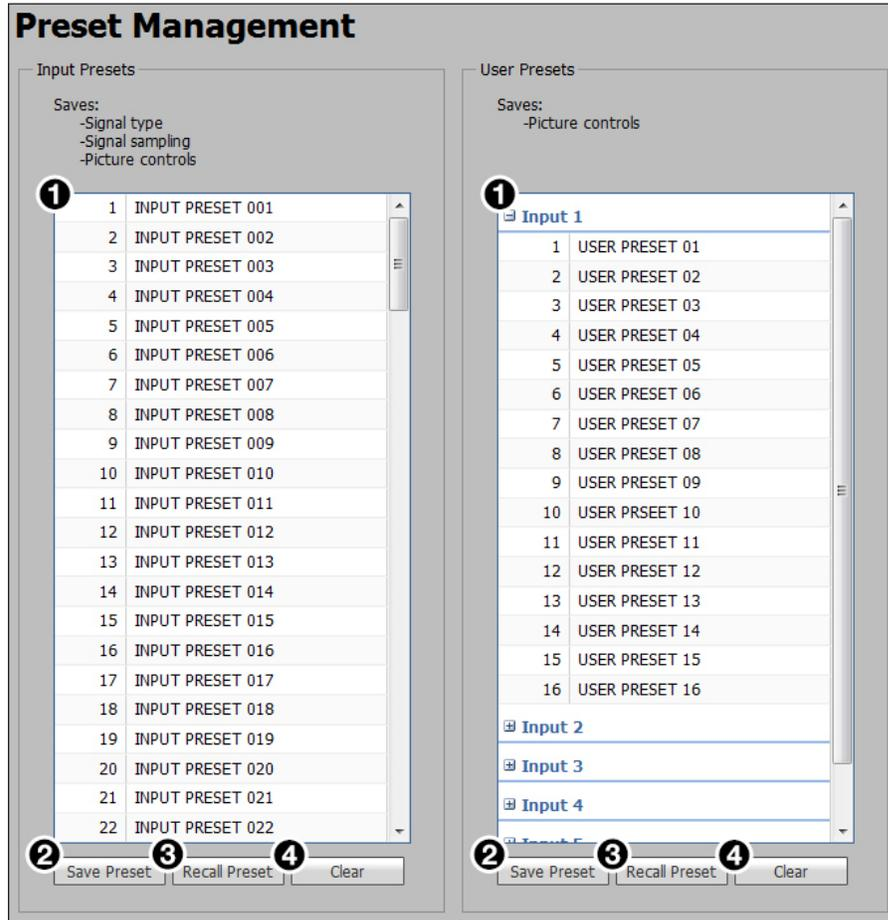

Figure 76. Preset Management Page
The **Audio Configuration** page has an output volume **Group Controls** fader, which is displayed to the right of each of the four audio configuration tabs. Figure 76, ①, shows the fader displayed next to the **Line Input** screen.